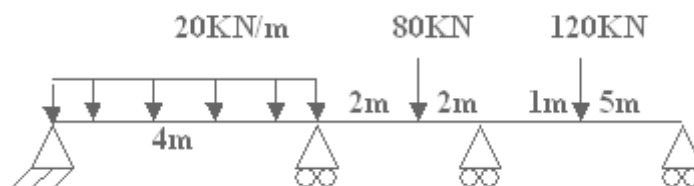

Figure 4
4. Analyse the Continuous beam shown in figure 4 using flexibility method and draw BMD. [16]